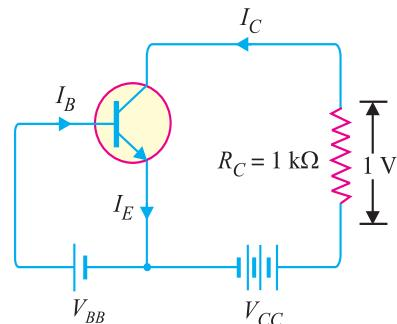

Fig. 8.21
**Solution.** Fig. 8.21 shows the required common emitter connection. The voltage drop across  $R_C (= 1\text{k}\Omega)$  is 1 volt.